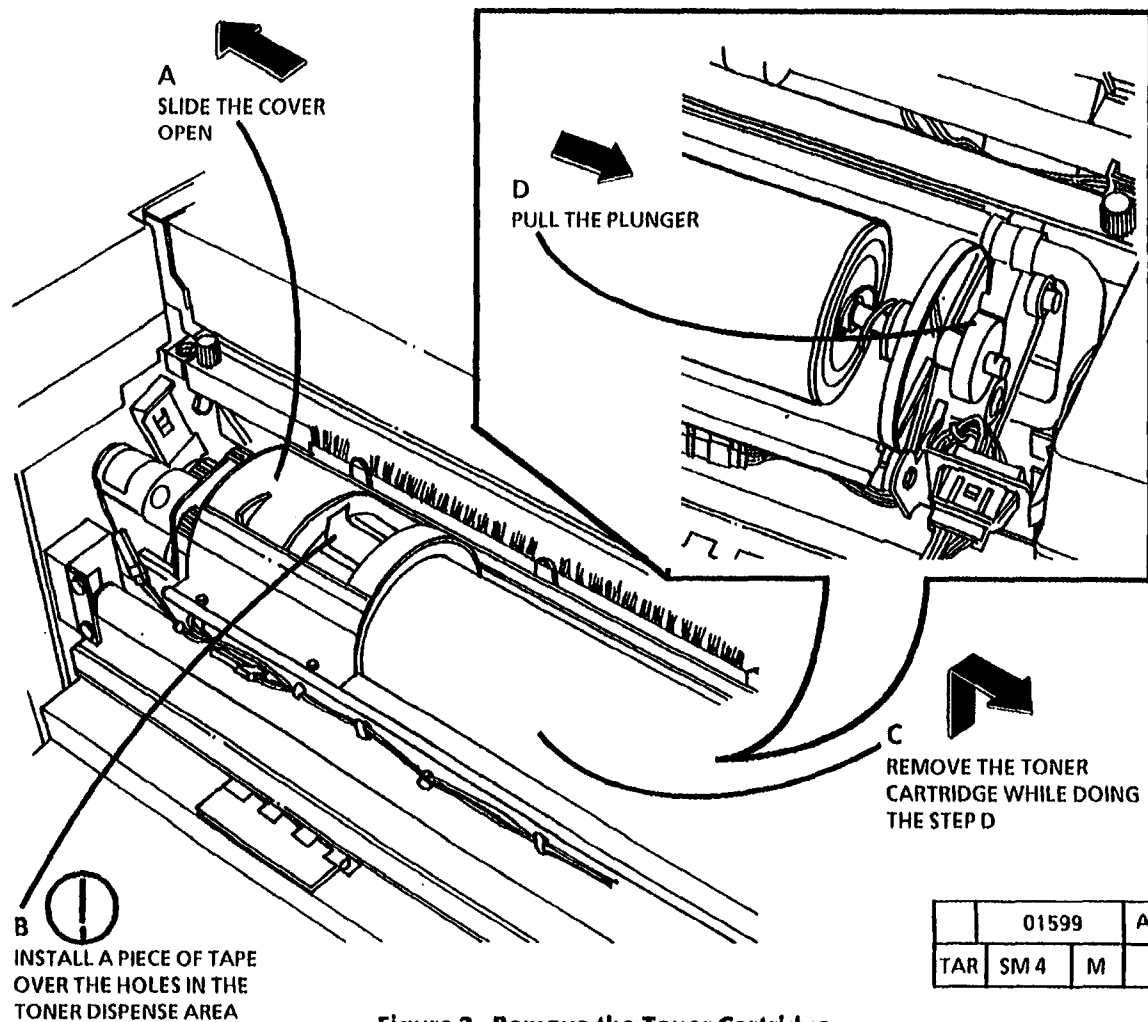

Figure 2. Remove the Toner Cartridge
3. (Figure 2): Remove the Toner Cartridge.